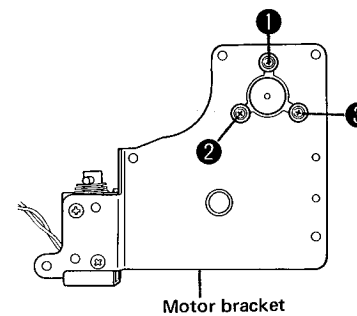

Fig. 17
3. Remove screws ① to ③ in Fig. 17 and replace the capstan motor.